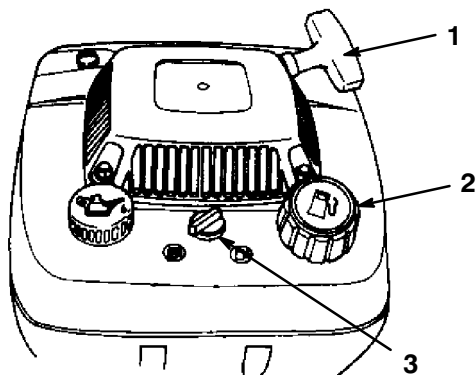

Figure 6
1. Clean around the fuel tank cap (Fig. 6).
2. Open the fuel valve (Fig. 6).
5. Pull the starter handle (Fig. 6) lightly until you feel resistance, then pull it sharply.